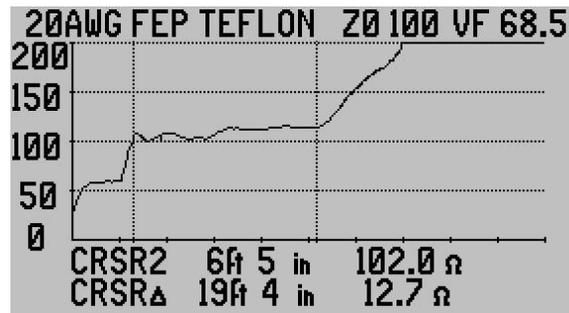

Figure 4
Figure 4 is an example of impedance (Z) variations over the length of two single wires in the harness. Cursor 2 marks the end of the test leads (50 Ohm coax with a short twisted pair to connectors lead at the end). Between Cursors 1 and 2, 19ft 4 in (5.9m) are the two single wires being measured as a pair with an open at the far end. At about 9 feet (2.7m) the impedance rises slightly for the remainder of the run. This could indicate either the wires separated more at that point in the harness and never came closer over the last 10ft (3m), or that section of the harness contains less total wires.